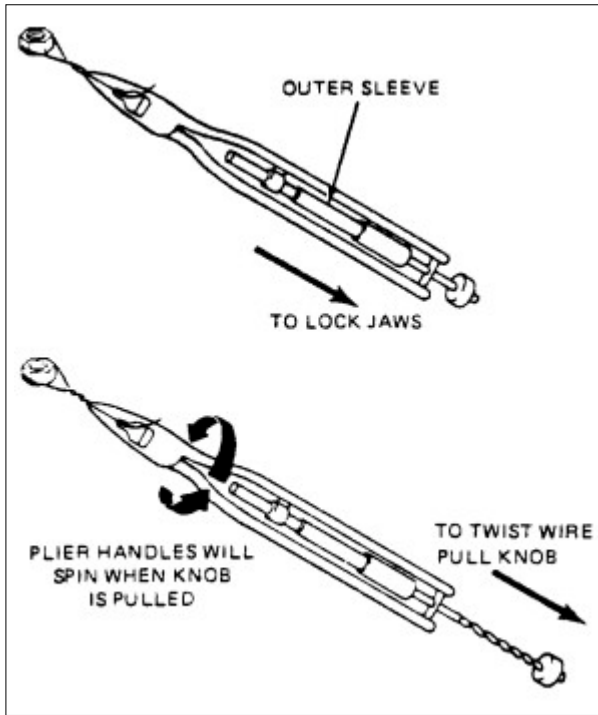

FIGURE 7-4. Use of a typical wire twister.
**7-125. TWISTING WITH SPECIAL TOOLS.** Twist the wire with a wire twister as follows. (See figure 7-4.)